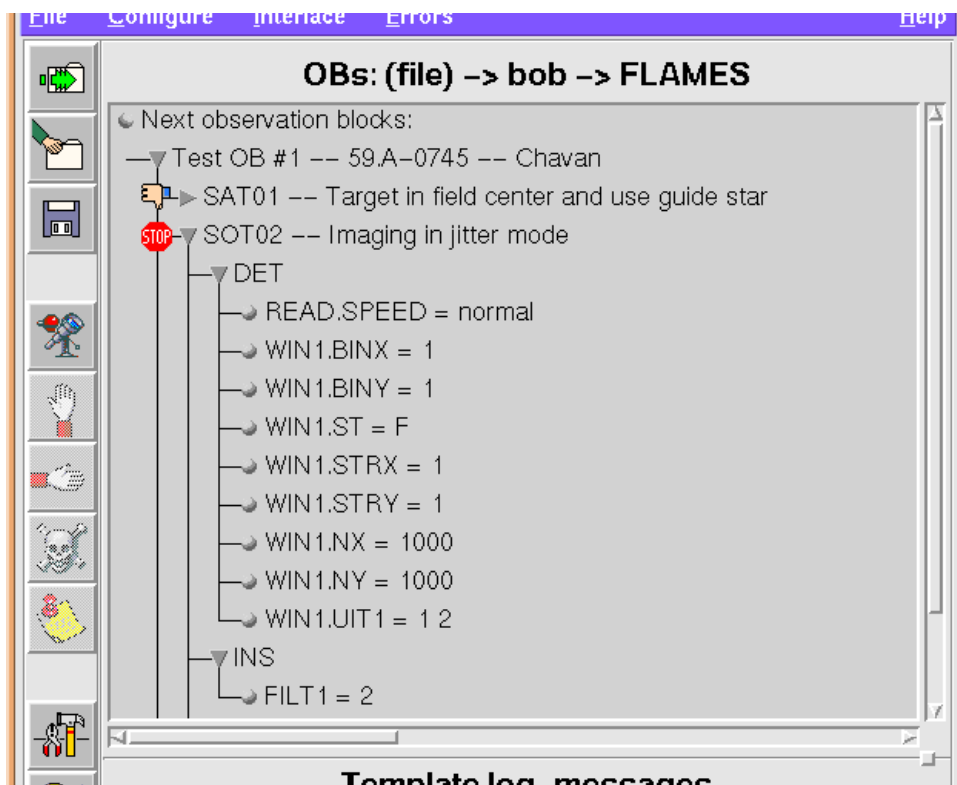

Figure 4: An example OBD loaded into BOB. It is (partially) expanded, and some flags have been set.
BOB will at start-up automatically configure itself, reading in the last saved configuration file (see below). When BOB starts up successfully, a main panel will appear on the screen (see Figure 4), and BOB will start executing `<scriptFile>` (if specified; see also section 2.11). The various constituent parts of this GUI are:
All these configuration menu options appear also on the Configuration panel (see Figure 4). Configuration items which are in the configuration panel, but not under the Configure menu of BOB's main panel are:
- **Template libraries:** a space-separated list of names of VLT/Tcl-libraries which contain declarations of auxiliary procedures used by some templates. Remark that these names do not include the “lib” prefix nor the “.tcl” suffix of the directory they are stored in, so in the example of Figure 4 BOB would look for procedures under directories called lib/libmySeqLib.tcl and lib/libmyTclLib.tcl. The search path for these directories will be:
An example of this is shown in Figure 4.
Foldable items (i.e. items which contain more viewable information) are indicated on the canvas with a small triangle, which at the same time indicates the status of folding. The (un)folding is simply performed by clicking with the mouse-button-1 on this triangle (see Figure 4).